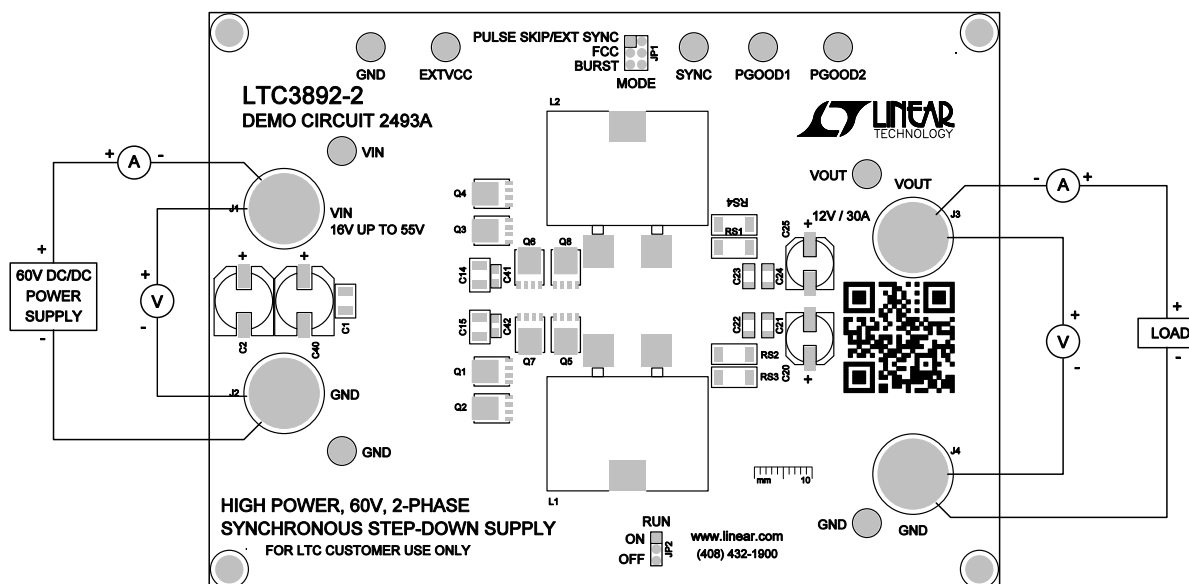

Figure 1. Proper Measurement Equipment Setup
Demonstration circuit 2493A is easy to set up to evaluate the performance of the LTC3892-2. For proper measurement equipment configuration, set up the circuit according to the diagram in Figure 1. Before proceeding to test, insert shunt JP2 (RUN) into OFF position, which connects the RUN pin to ground (GND), and thus, shut-down the circuit.
1. With the DC2394 set up according to the proper measurement and equipment in Figure 1, apply 20V at V_{IN} . Measure V_{OUT} ; it should read 0V. If desired, one can measure the shutdown supply current at this point. The supply current will be approximately 5 μ A, or less, in shutdown.